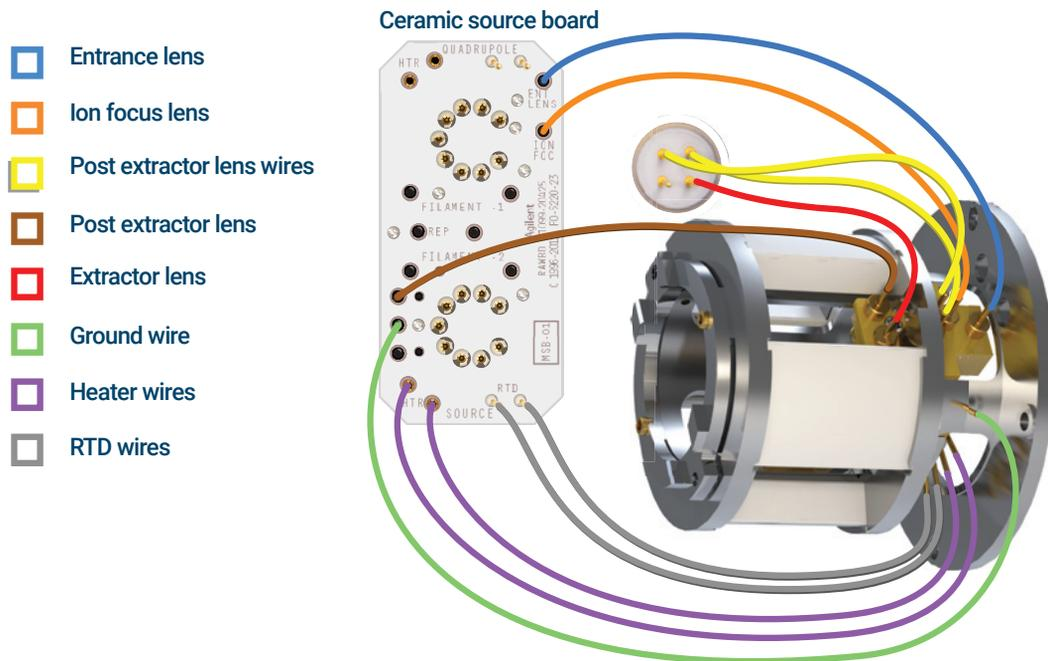

Figure 78. HES 2.0 radiator wiring
- 1 Use tweezers or needle nose pliers to connect or disconnect the green ground wire and the six lens wires from the radiator. Do not bend the wires any more than necessary. (See **Figure 78**.)